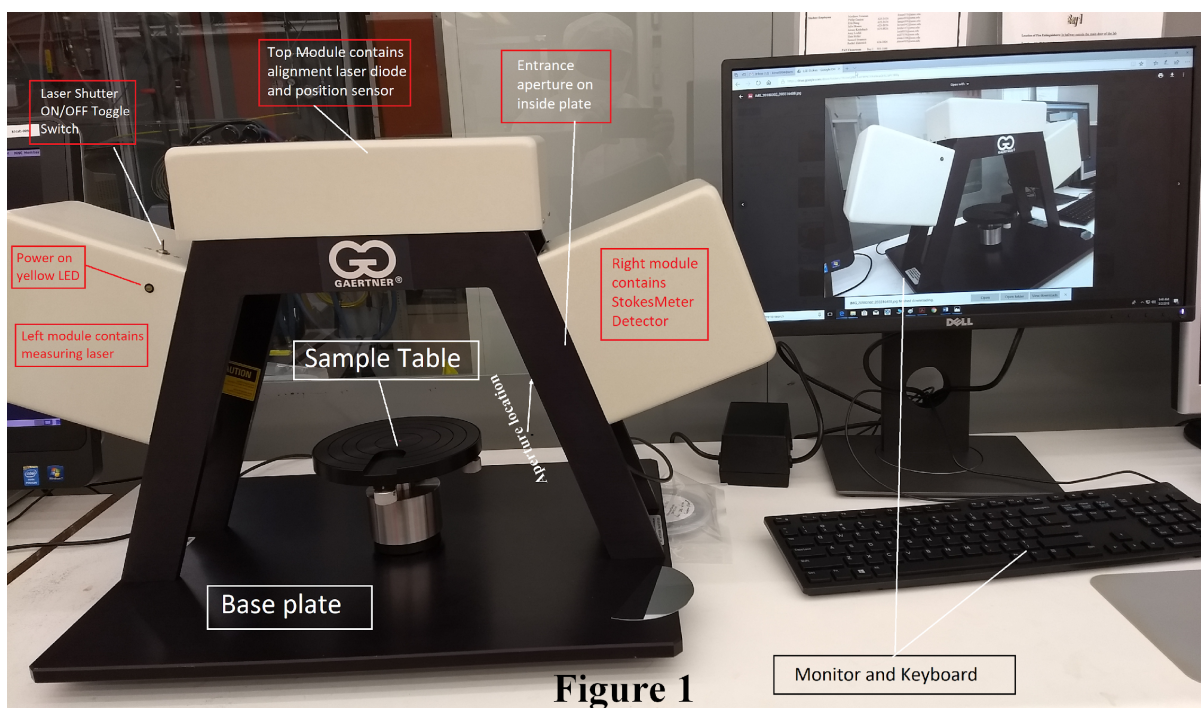

Figure 1
7.4 Ensure the laser shutter ON/OFF toggle switch is set to ON (LED on left module should be yellow – see Fig 1)